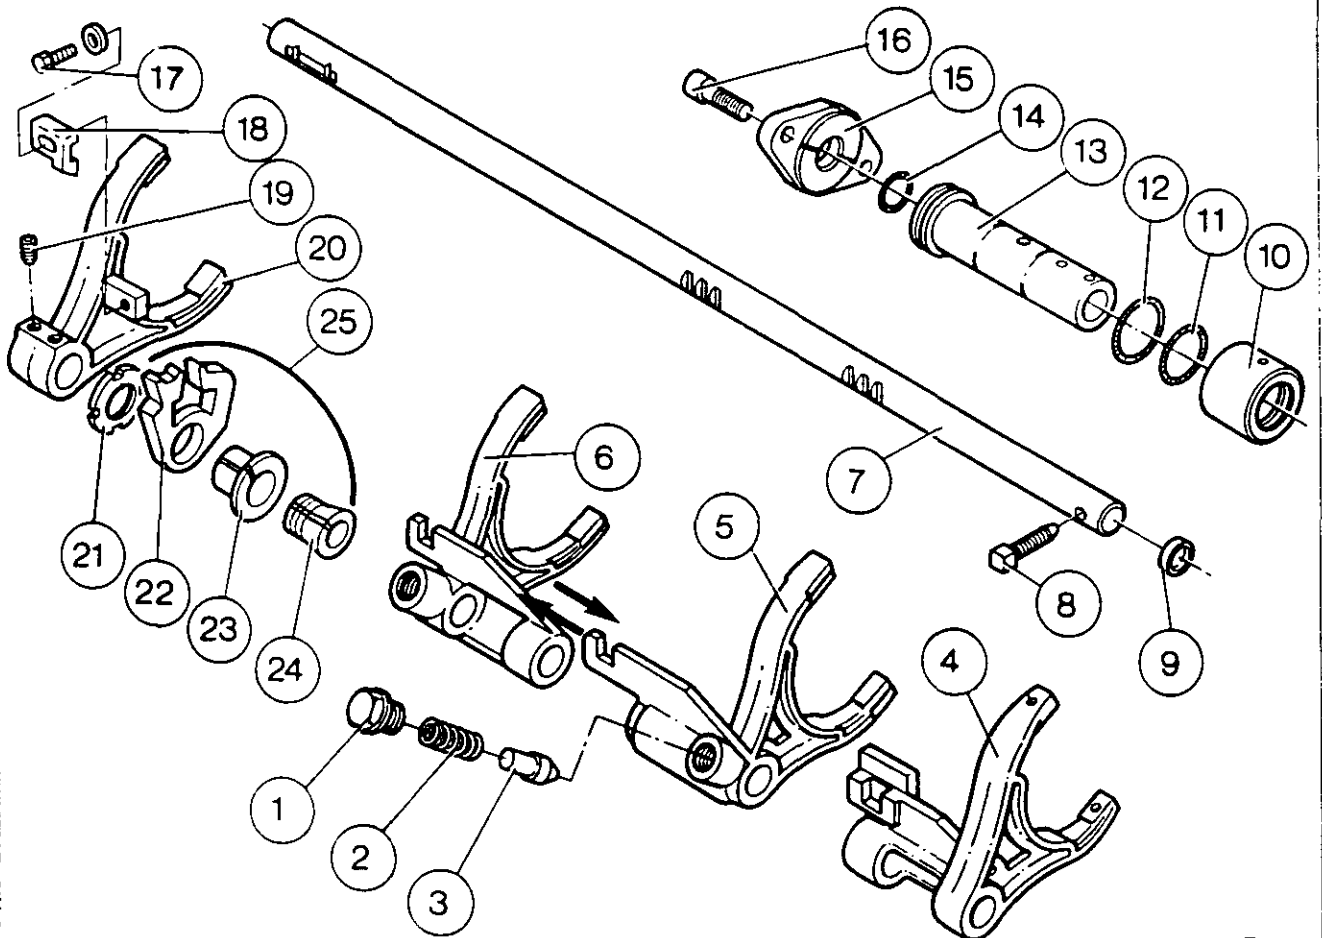

Fig. 6
7. Remove the plugs (1), the springs (2) and locking plungers (3) from forks (5) and (6) (Fig.6)